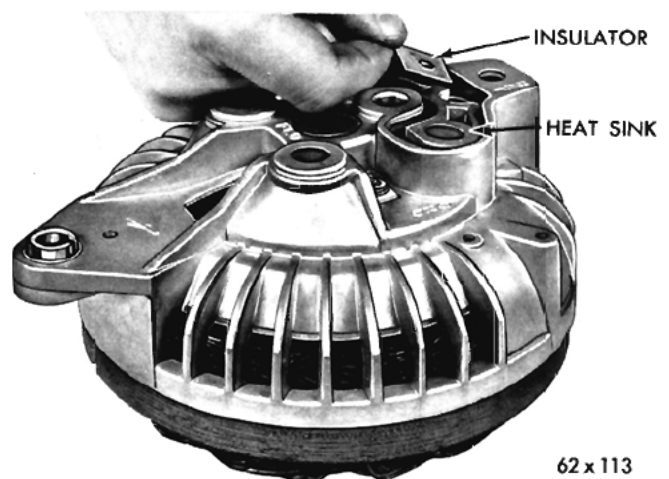

Fig. 28—Removing the Heat Sink Insulator
(11) Remove the D.C. output terminal nuts and washers and remove the terminal screw and inside capacitor.
(12) Remove the insulator (Fig. 28).
(10) The alternators have the capacitor mounted internally. Make sure the heat sink insulator is in place (Fig. 28).
(11) Install the output terminal screw and the capacitor through the heat sink and end shield.
(12) Install the insulating washers, lockwashers and lock nuts.
(13) Make sure the heat sink and insulator are in position and tighten the lock nut.
(14) Position the stator on the rectifier end shield.
(15) Position the rotor end shield assembly on the stator and rectifier end shield. Align the through bolt holes in the stator, rectifier end shield and drive end shield.
(16) Compress the stator and both end shields by hand and install the through bolts, washers and nuts.
(17) Install the insulated brush in the rectifier end. Place the bronze terminal on the plastic holder with